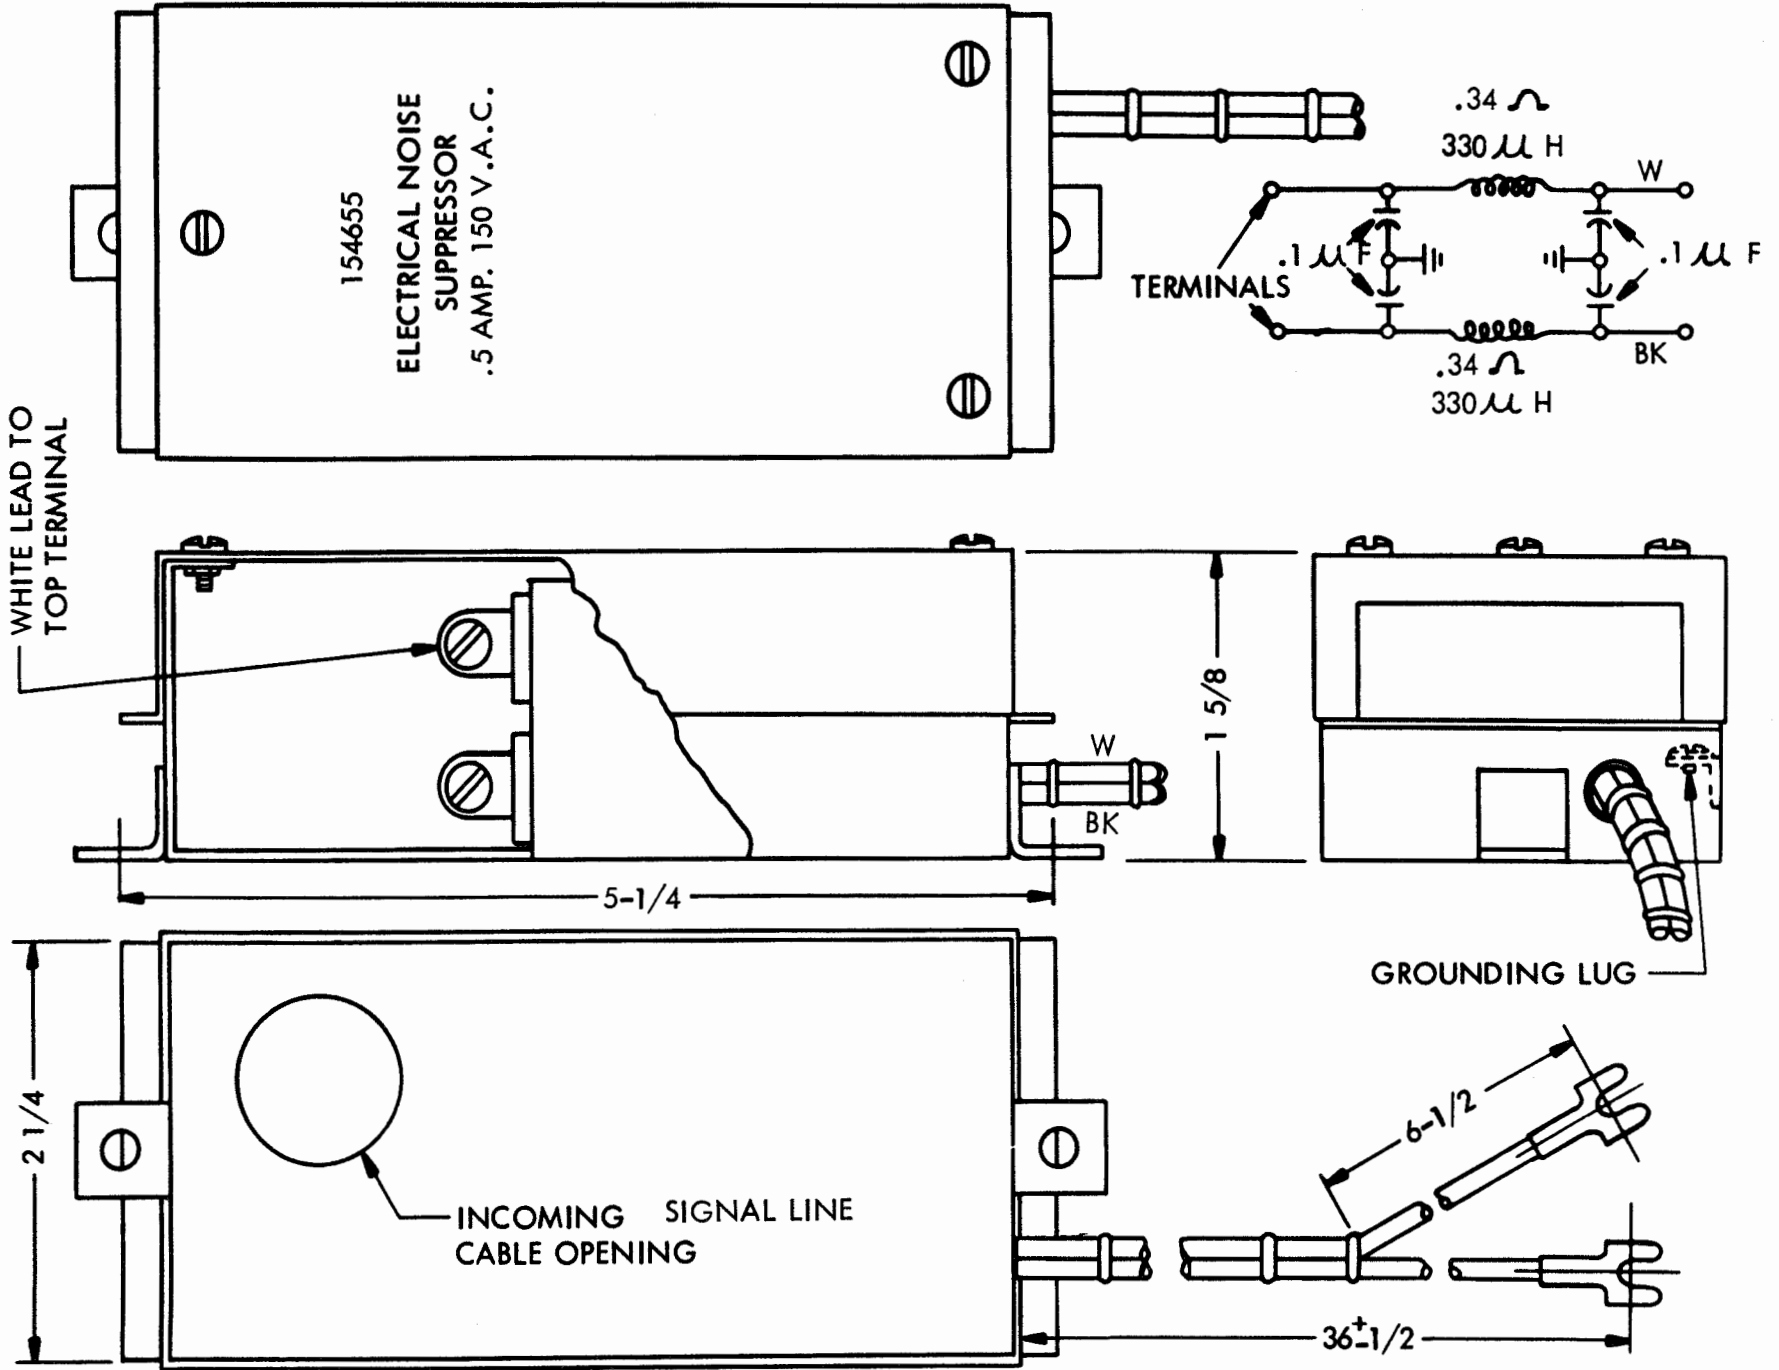

FIGURE 3
(2) Remove the typing and keyboard mechanisms in accordance with standard procedure.
(3) Mount the suppressor on the upper shelf floor using the right opening in the center of the shelf.
(4) Remove the cover plate of the suppressor by removing its three retaining screws.
(5) Remove the star nut from the 94660 connector. Secure the connector to the underside of the shelf floor with the star nut.
(6) Insert the power line cable through the 94660 connector and connect the wires to the terminals in the suppressor.
(7) A ground wire must be connected to the grounding lug of the suppressor and it must be connected to a good ground for satisfactory operation of the suppressor.
(8) To relieve tension on the suppressor terminal connections, clamp the cable in place by means of the 94660 connector. If additional thickness is required, friction tape may be wound around the cable at the clamping point.
(9) For connecting the noise suppressor cable leads on any specific installation, refer to the applicable wiring diagram.
(10) Replace the noise suppressor cover plate.
(11) Replace the keyboard and printer mechanisms.
b. The 154651 modification kit (See Figures 3 and 4).
(1) The electrical noise suppressor may be mounted on the upper shelf floor of a KSR or ASR cabinet.
(3) Mount the suppressor on the upper shelf floor using the left opening in the center of the shelf.
(6) Insert the signal line cable through the 94660 connector and connect the wires to the terminals in the suppressor.